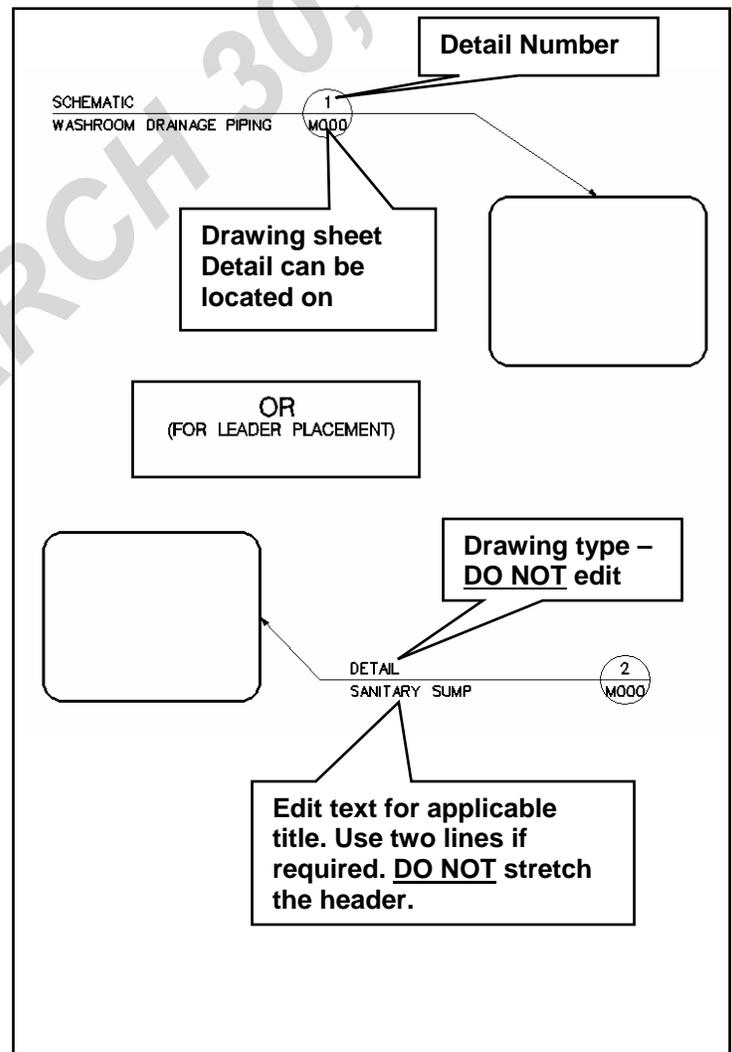

Figure 35a –Detail Reference for drawing body
- **Detail Reference for Drawing Body** (See Figure 35a), similar to *plan and detail markers*, these callouts are used for directing the reader to information found on other sheets. Used primary for all **mechanical drawing** preparation, these callout may also be used by other disciplines (for drawings that are not “over-crowded” with information – otherwise the *plan and detail markers* should be used).